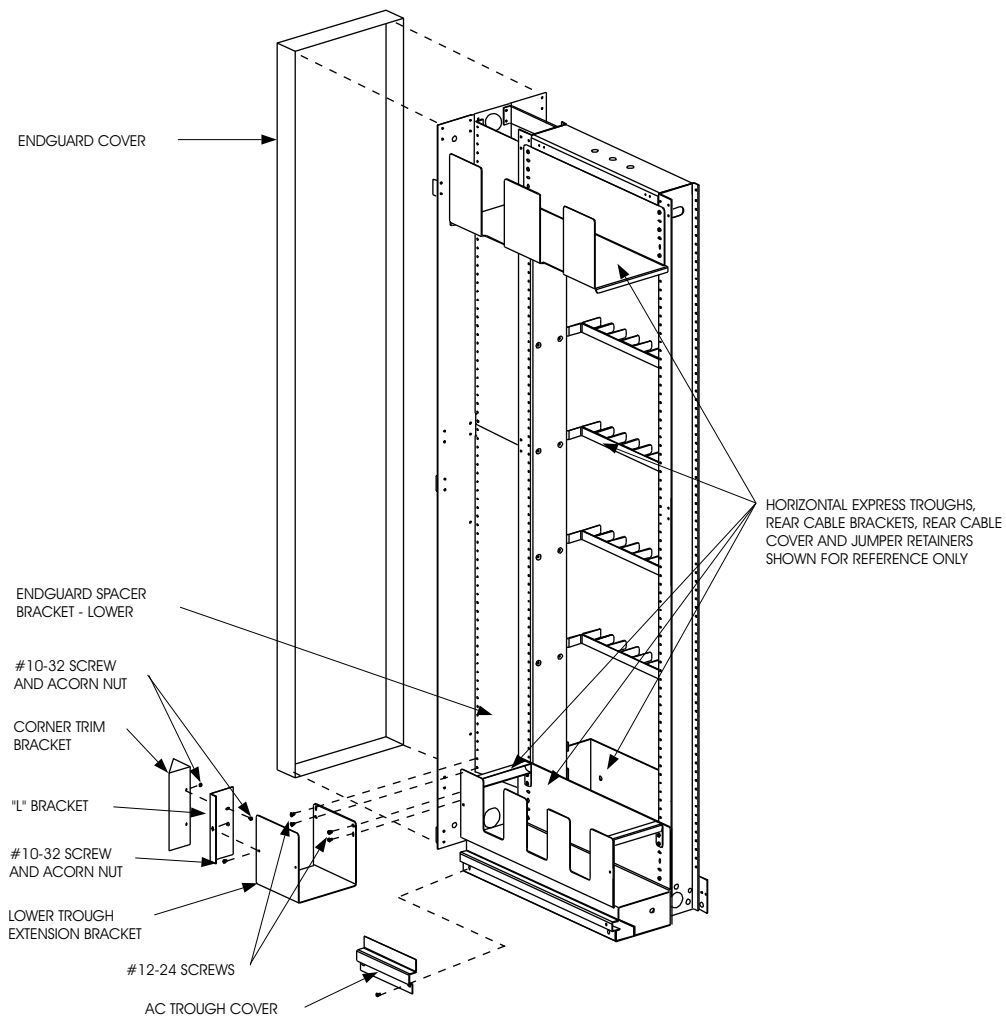

Figure 2. Installing Group 1 Endguard Cover
1. Install endguard cover and hardware to endguard backplane (see Figure 2).